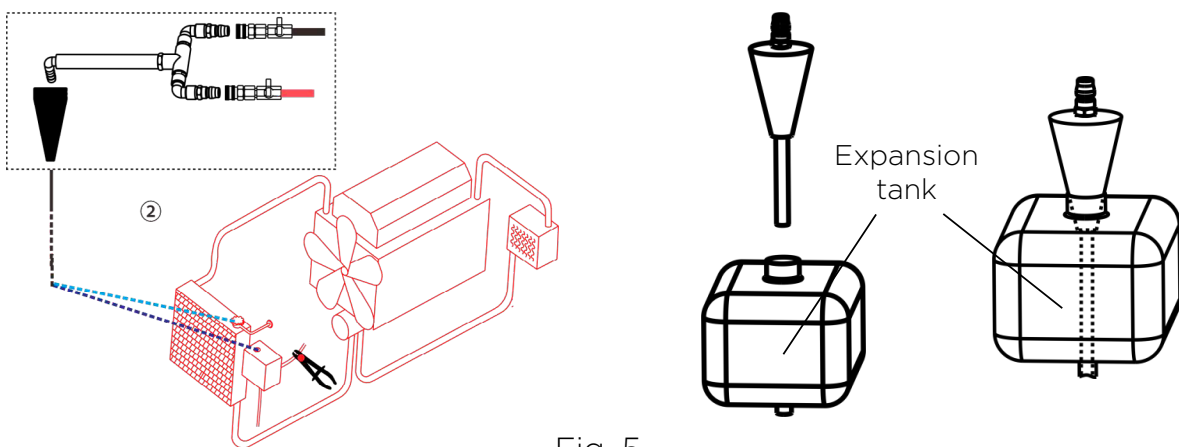

Fig. 5
- Carefully open the cap of the expansion tank and use the cone previously installed on the Y-adapter of the unit. Adjust the length of the plunger to the size of your tank. It should be long enough to fit into the deepest part of the tank. Then place the cone and plunger into the expansion tank until the system is sealed. (Fig. 5)